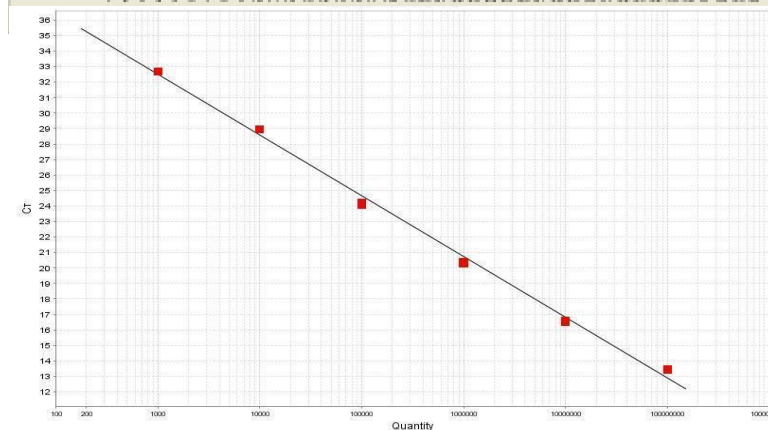

Figure 2. Standard curve showing Ct value vs. pfu/mL
- Most SDS software will derive unknown virus titres from an automatically generated standard curve. However, if required export the Ct values into a data analysis program (e.g. Microsoft Excel) and calculate the mean Ct for each virus. Generate a standard curve using the virus internal standard Ct values vs. pfu/mL titre (example shown in Figure 2). Data points that significantly deviate from the trend line should be omitted when plotting the standard curve. Ideally the standard curve should have an R2 value >0.95. If the R2 value is <0.95 then omit the last two dilutions (104 and 103 pfu/mL) and re-plot the standard curve.
- Plot the unknown virus Ct values against your standard curve to obtain a pfu/mL value for each virus (Figure 2).